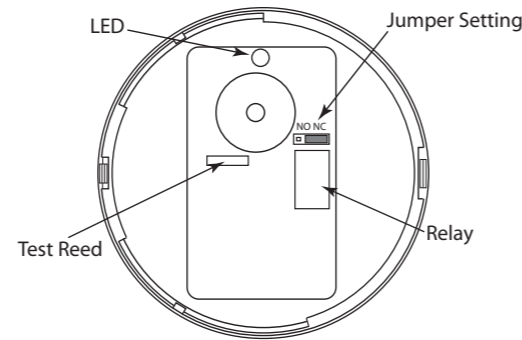

Figure 3. Internal view of detector
- (1) All the wires in the base should be flattened and should not touch any of the other connectors to ensure that the detector head is smoothly secured to the base.
- (2) When using the jump wires to check the connectivity for each gas detector in the circuit loop, be sure to remove all the jump wires before attaching the detector head onto the base.
- (3) Ensure that the components used in the circuit loop as shown in Figure 3 should be coupled up with those components used in the transceiver circuitry of the control panel.
- (4) The base is allowed to be installed within an available wiring box including octagon box (3", 3.5", or 4"), circular box (3") and rectangular box (4" long), without using any other additional mechanical adapters.
- (1) Remove the cover to expose the PCB.
- (2) Remove the jumper above the relay as indicated in fig 3.
- (3) Place on to the required setting NO or NC
- (4) Carefully replace the cover.